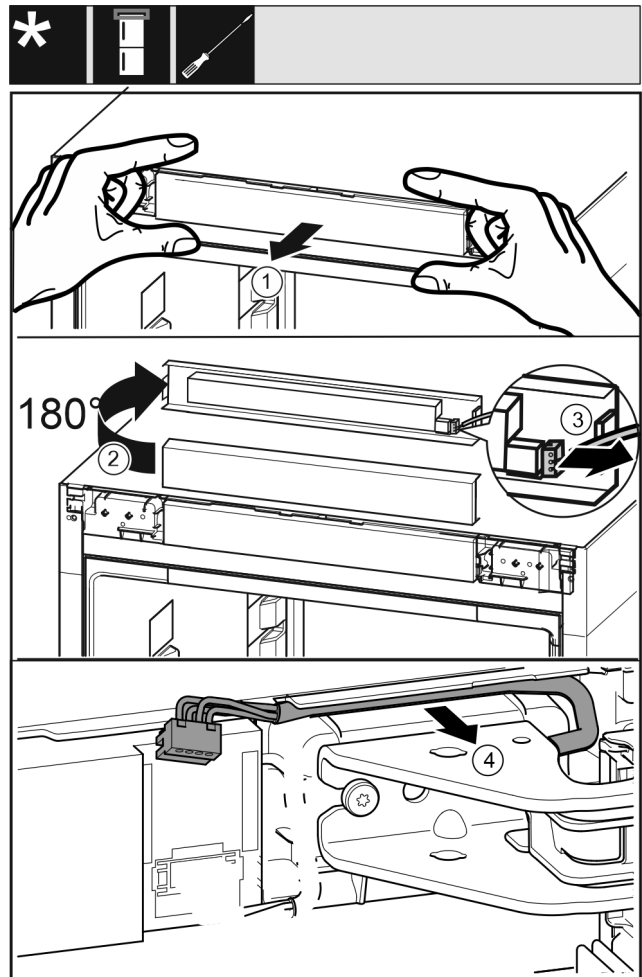

Fig. 21
- Carefully loosen the control plate Fig. 21 (1) toward the front.
- Turn the control plate Fig. 21 (2) upward by 180°.
- Press the latching tab Fig. 21 (3) backwards and carefully pull out the plug.
- Carefully loosen the cable Fig. 21 (4) above the swap bearing block from the guide.